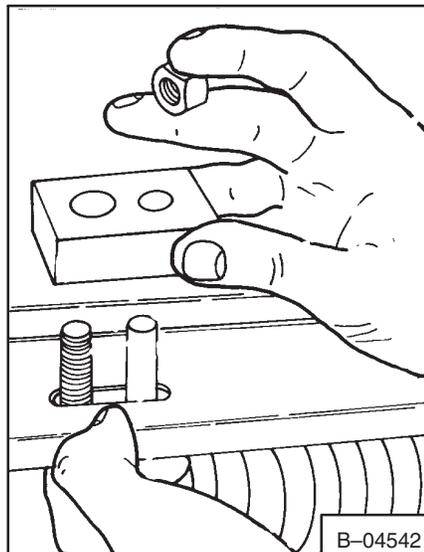

Fig. 5-7 Removing Bolts And Blocks
4. Remove the bolts and blocks holding the spring in position (Fig. 5-7).
5. Install the spring blocks. Install the bolts in the spring blocks and tighten to 65-70 ft.-lbs (88-95 Nm) torque (Fig. 5-7).